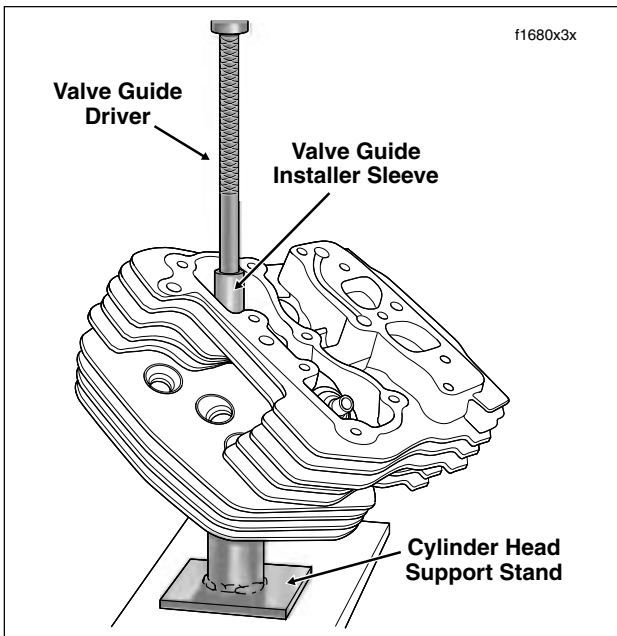

Figure 3-71. Install Valve Guide
- Center valve guide driver under ram of arbor press and apply pressure only until valve guide is started in bore and then back off ram slightly to allow guide to center itself. See Figure 3-71.